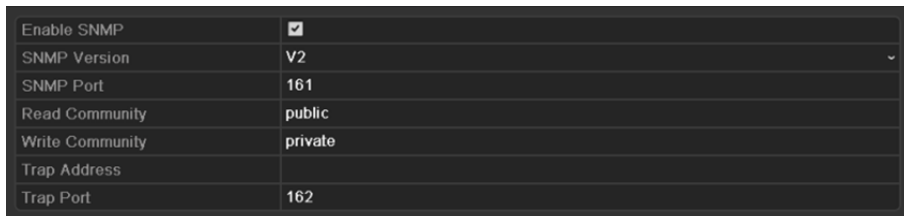

Figure 12-13 SNMP Settings Interface
Step 2 Select the **SNMP** tab to enter the SNMP Settings interface, as shown in Figure 12-13.